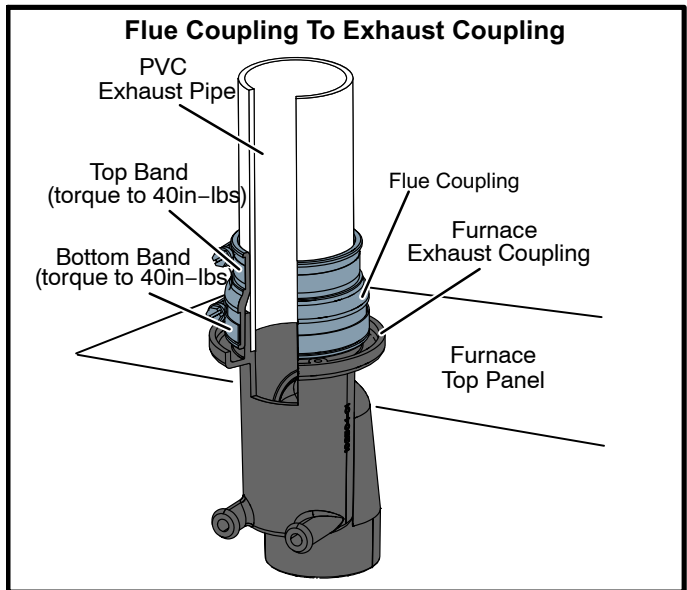

FIGURE 25
Exhaust Piping (Figures 25 and 27)
The provided flue coupling must be attached to the exhaust coupling on the furnace top panel. Use provided bands. See steps below and FIGURE 25.
- 3 - Insert PVC exhaust pipe through flue coupling. Ensure vent pipe is fully seated into exhaust coupling. Tighten both top and bottom bands to 40 in lbs. See figure 25.